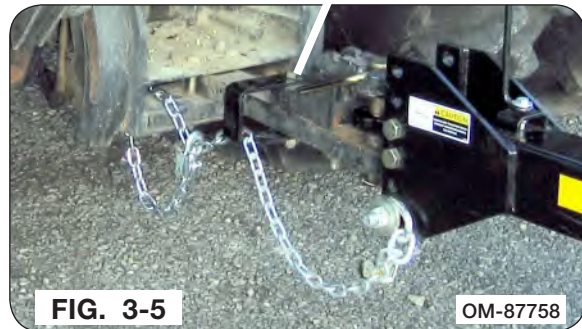
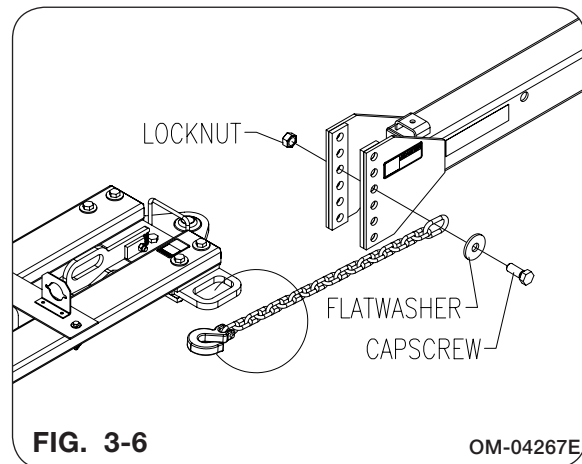

FIG. 3-5
FIG. 3-6
Fig. 3-5 shown with hook-up between tractor and Rolling Harrow. Always use intermediate support when connecting the implement directly to a tractor. DO NOT use the intermediate support as the chain attaching point. Fig. 3-6 shows how the transport chain must be installed between primary tillage tool and ROLLING HARROW.
- Fig. 3-6 is a typical rear hitch representation. Actual rear hitch may vary.